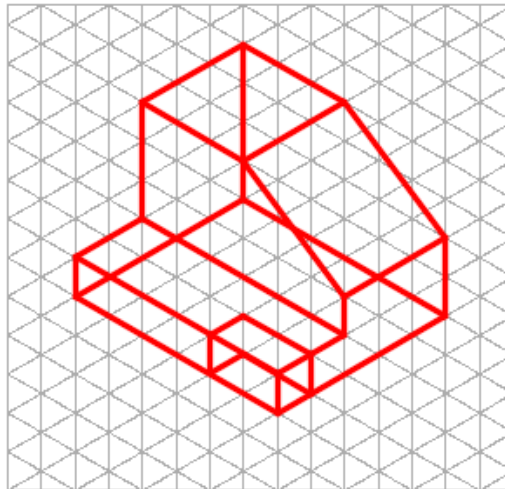

Figure Step 11
Step 11 Trim and delete the necessary lines to complete the Right Side view contour and then add the lines to form the Top view contour. (Figure Step 11)